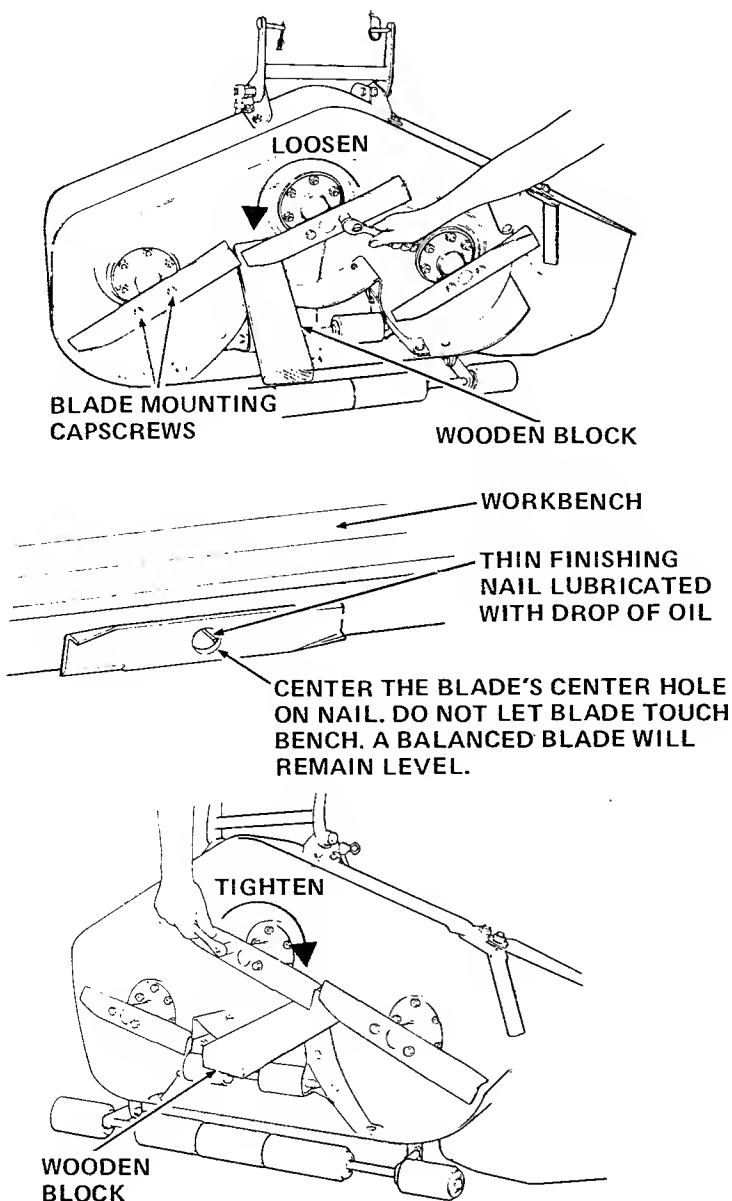

Figure 17. Check, Sharpen, and Balance Mower Blades (Yearly Care)
5. Check, sharpen, and balance the mower blades. (See figure 17.)
5. Excessive mower vibration.	A. Blade mounting screws are loose; tighten to 32 foot-pounds of torque. B. Mower blades are bent and should be replaced. C. Mower blades are out of balance; remove, sharpen, and balance blades as in figure 17. D. Arbor shaft bent due to impact; check shaft for wobble.